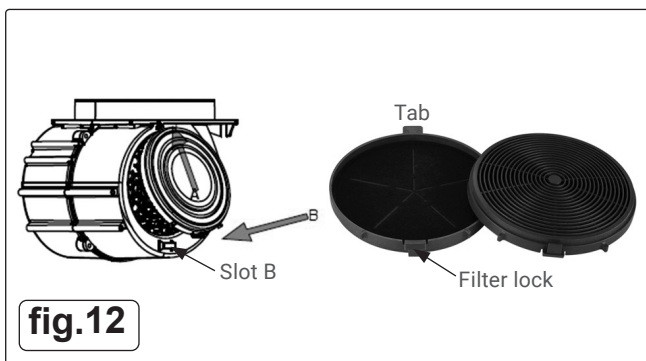

fig.12
- **CARBON FILTER** fig.12.
2. Press the filter lock (A) on fan to remove the carbon filter.
3. To replace the carbon filter, locate slot (B) on the fan, slot the tab on carbon filter into (B). Click the carbon filter in place.